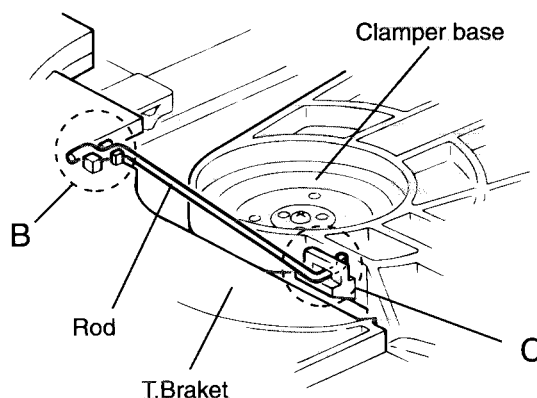

Fig.2
■ Removing the CD tray assembly (See Fig.2~4)
4. From the T.bracket section "B" and clamber base section "C", remove both of the edges fixing the rod (See Fig.2 and 3).